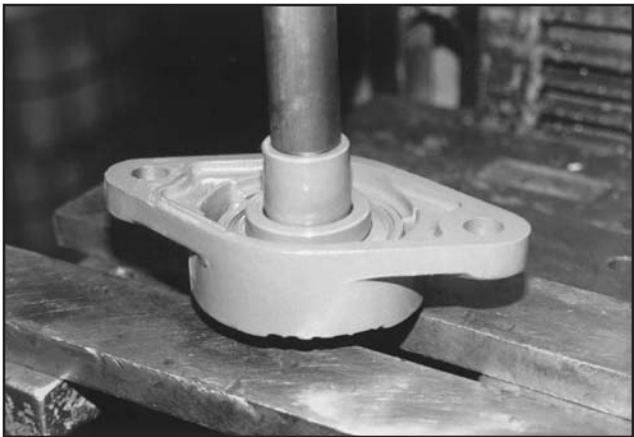

FIGURE 42
6) Position the bearing block on the arbor press with the exposed side of the bearing facing down. Determine that the bearing block is properly supported. Using the arbor press and an appropriate sized thrust bushing, remove the internal hexagon bushing and bearing from the housing. FIGURE 42.